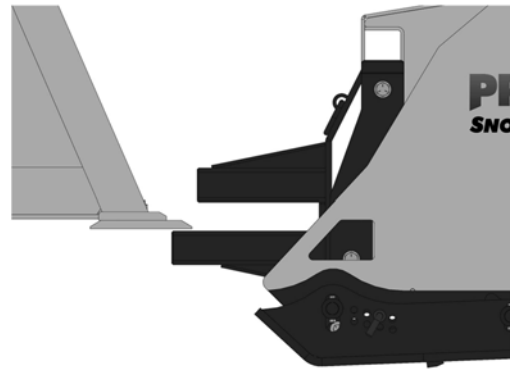

Figure 2a
1. Drive the cutting edge of machine's bucket into the post receptacle on the back of the Sno Pusher. (Figure 2a and 2b)